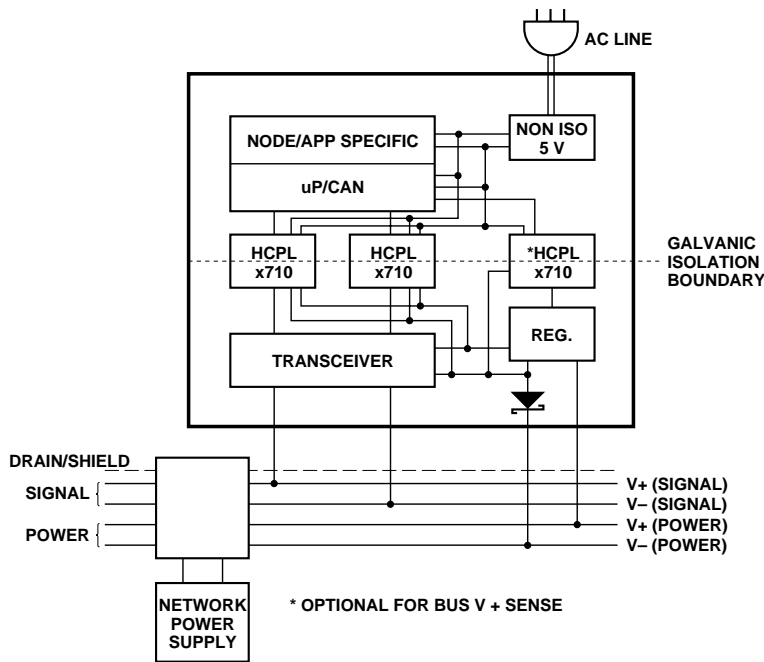
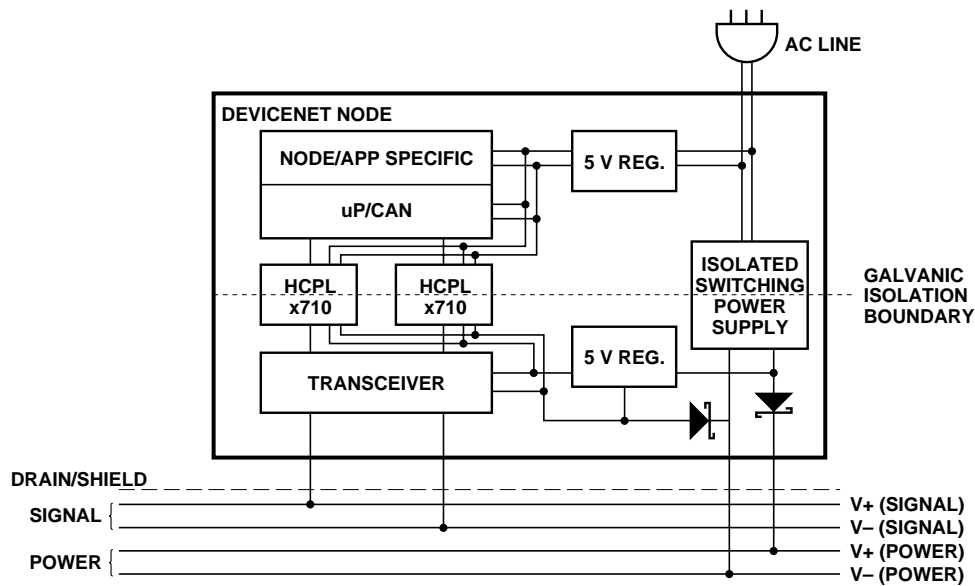

Figure 20. Isolated node with transceiver powered by the network.
Figure 21. Isolated node providing power to the network.
Isolated Node with Transceiver Powered by the Network (Figure 20), and Isolated Node Providing Power to the Network (Figure 21).
Figure 20 shows a node powered by both the network and another source. In this case, the transceiver and isolated (network) side of the two optocouplers are powered by the network. The rest of the node is powered by the AC line which is very beneficial when an application requires a significant amount of power. This method is also desirable as it does not heavily load the network.
It is suggested that the Bus V+ sense block shown in Figure 20 be implemented. A locally powered node with an un-powered isolated Physical Layer will accumulate errors and become bus-off if it attempts to transmit. The Bus V+ sense signal would be used to change the BOI attribute of the
Figure 21 shows a node providing power to the network. The AC line powers a regulator which provides five (5) volts locally. The AC line also powers a 24 volt isolated supply, which powers the network, and another five-volt regulator, which, in turn, powers the transceiver and isolated